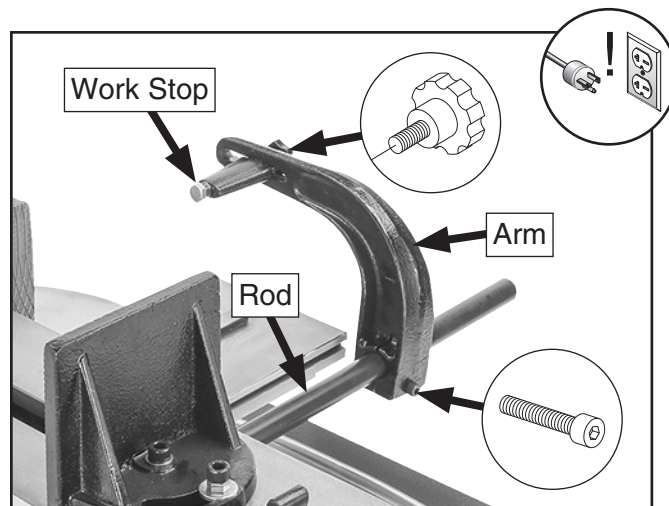

Figure 52. Work stop assembly components.
2. Loosen work stop knob (see **Figure 52**), and adjust work stop position in arm as needed for workpiece, then tighten knob to secure.
3. Loosen cap screw shown in **Figure 52** to adjust arm on rod until work stop contacts workpiece, then tighten cap screw to secure.